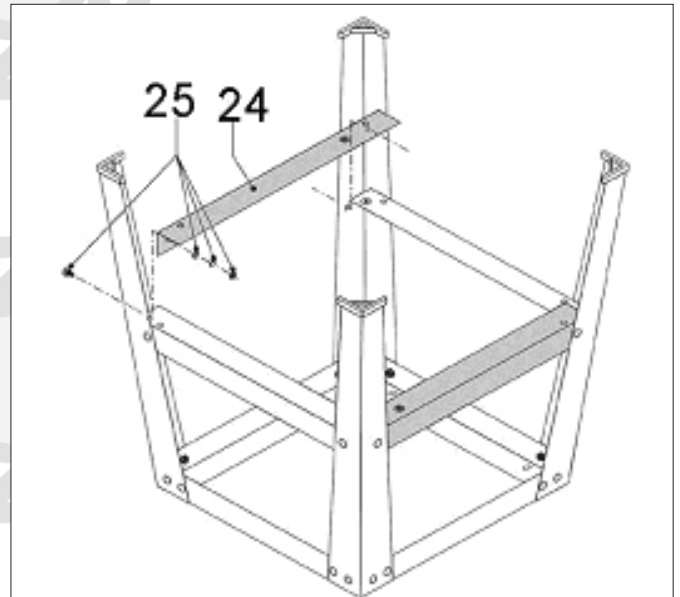

Figure 4
Position a long cross rail (24) in place between two legs, so the screw holes are lined up. Screw the cross rail to the legs using screws, washers and nuts (25), but do not tighten them too much. Repeat this with the other long cross rail as shown in figure 4.